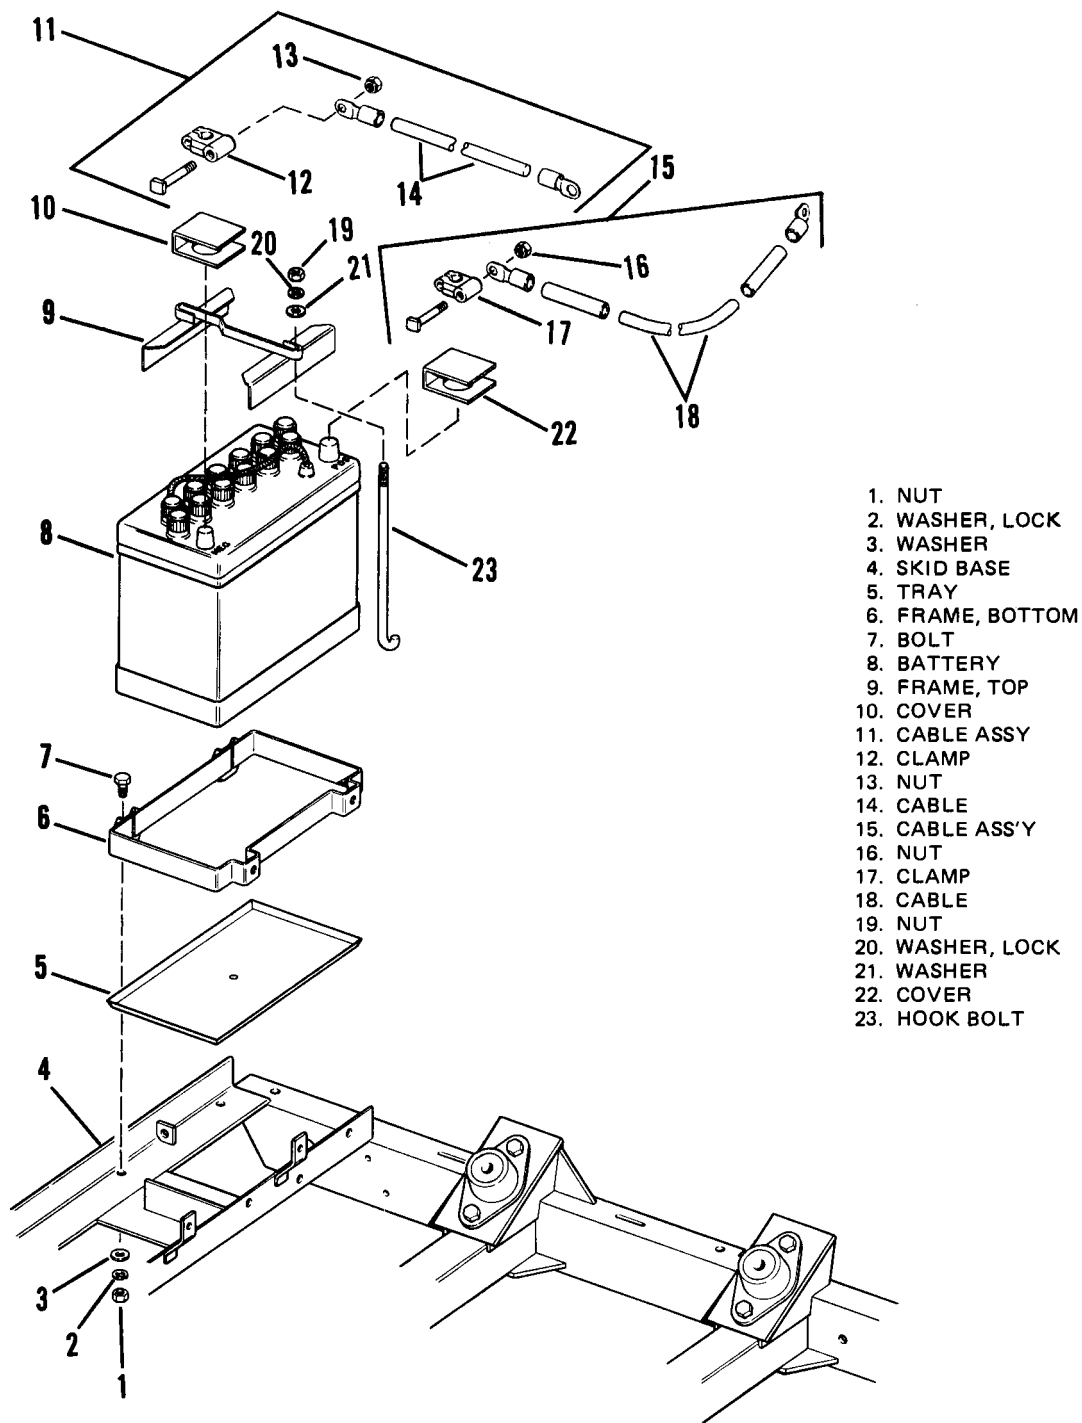

Figure 4-7. Battery, Battery Cables, Battery Tray and Holddown.
4-19. BATTERY FRAME AND TRAY, BATTERY HOLDDOWN. (See Figure 4-7)
4-22. BATTERY. (See Figure 4-7)
- b. Removal. (See Figure 4-7)